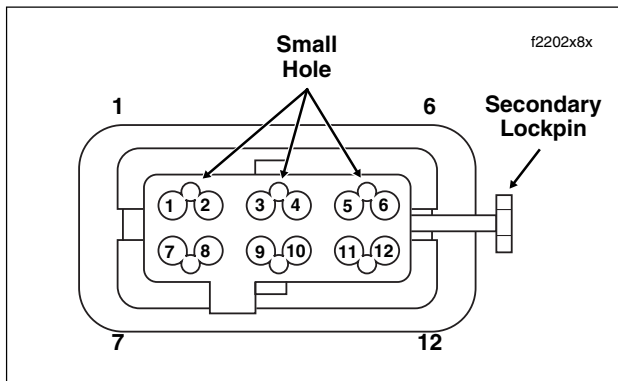

Figure 8-44. Mating End of Connector
2. Locate the head of the secondary lockpin on one side of the connector housing. See Figure 8-44.
- a. Locate small hole between terminals on mating end of connector. See Figure 8-44.
For wire location purposes, the corners of the socket housing are stamped with the numbers 1, 6, 7 and 12, representing terminals 1-6 on one side, and 7-12 on the other. See Figure 8-44.